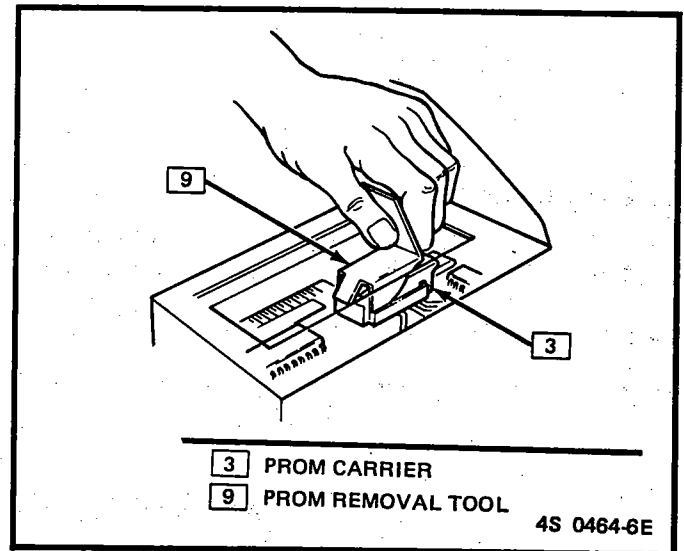

Figure C1-15 - PROM Removal Tool
5. PROM assembly. (Figure C1-15).
Using the rocker-type PROM removal tool, engage one end of the PROM carrier with the hook end of the tool (see Figure C1-15). Press on the vertical bar end of the tool and rock the engaged end of the PROM carrier up as far as possible.